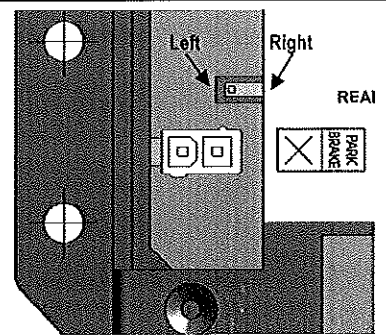
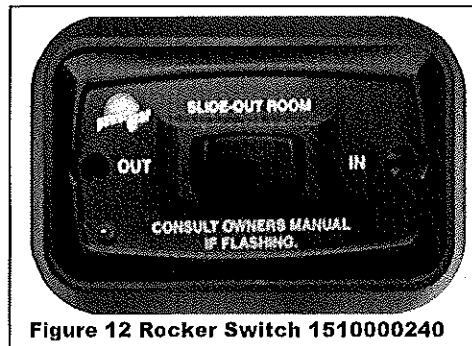
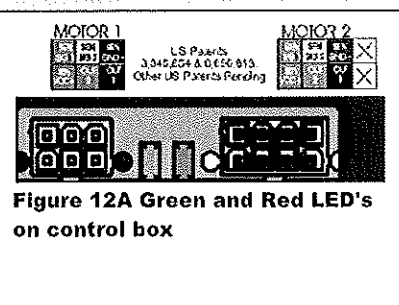

Figure 9A Park Brake Dip Switch on Control Box
Figure 12 Rocker Switch 1510000240
Figure 12A Green and Red LED's on control box
2. Determine location to mount the **rocker switch** (FIGURE 12, page 4). Location needs to be in view of slideout room and have minimum depth of 1" inside the wall.
3. Route and attach the harness to where the rocker switch will be mounted, and mount the rocker switch with two (2) screws.
5. Route the park brake input harness from the park brake signal source to the control box or to bypass the park brake input signal, move the dip switch at the park brake connector on the control box to the left (FIGURE 9A).
1. Press and hold the **IN** button on the wall rocker switch (**FIGURE 12**).
5. Press and hold the **OUT** button on the wall rocker switch (**FIGURE 12**).
6. Press and hold the **OUT** button (FIGURE 12, page 4). There will be a slight delay before the room will begin to move, this is normal.
5. Press and hold the **IN** button (FIGURE 12, page 4). There will be a slight delay before the room will begin to move, this is normal.
- The **FAULT CODE LED** (FIGURE 12, page 4) on the rocker switch will flash **RED** a number of times corresponding to the number of red flashes on the control box (FIGURE 12A). Refer to the **TROUBLESHOOTING** chart on page 6 to best determine what caused the fault.
- The **MOTOR LED** (FIGURE 12A) on the control box will flash **GREEN** a number of times corresponding to which motor had the associated fault.
- For example: if you are seeing two (2) **GREEN** flashes and four (4) **RED** flashes, it means that there is a motor fault on motor 2.